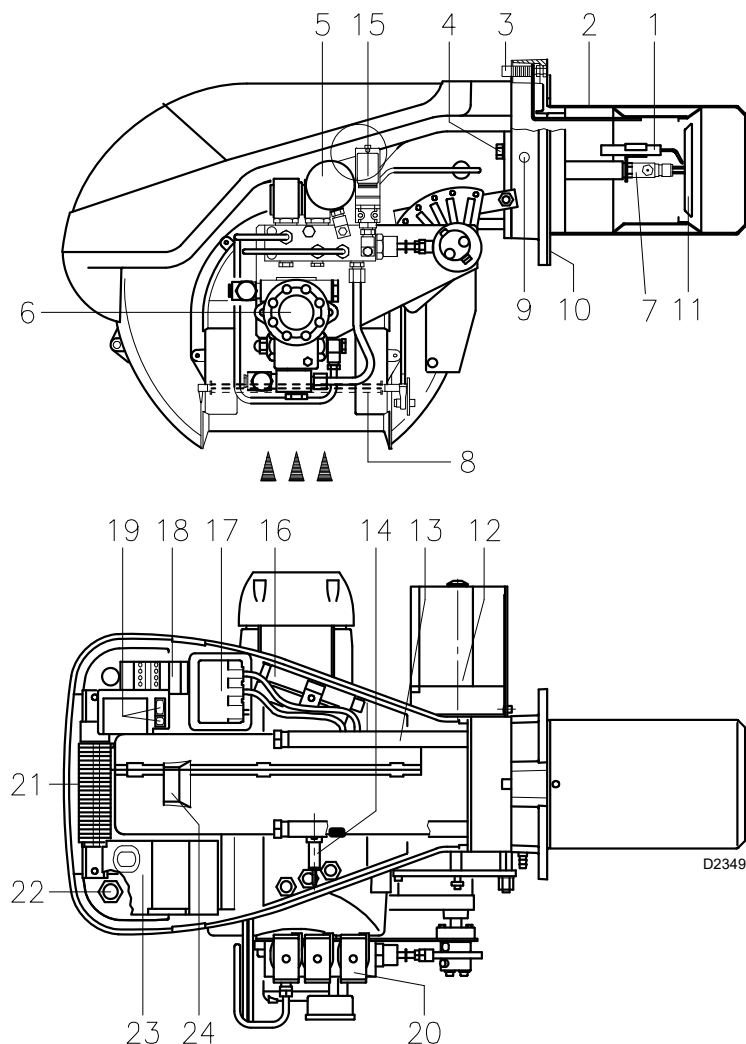

Fig. 3
- **Flame safeguard lock-out:** if the flame relay 23)(Fig. 3) pushbutton lights up, it indicates that the burner is in lock-out. To reset, press the pushbutton.
- **Motor trip:** release by pressing the pushbutton on thermal overload 18)(Fig. 3).